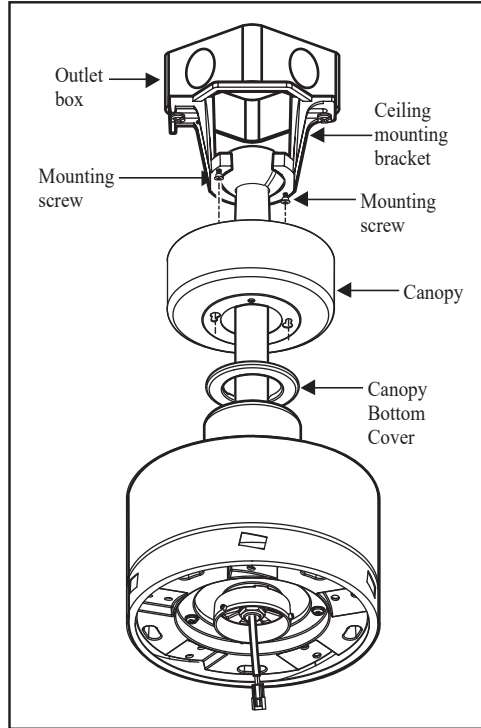

Figure 14
1. Make sure connections are neatly tucked into the ceiling outlet box. (Figure 14)